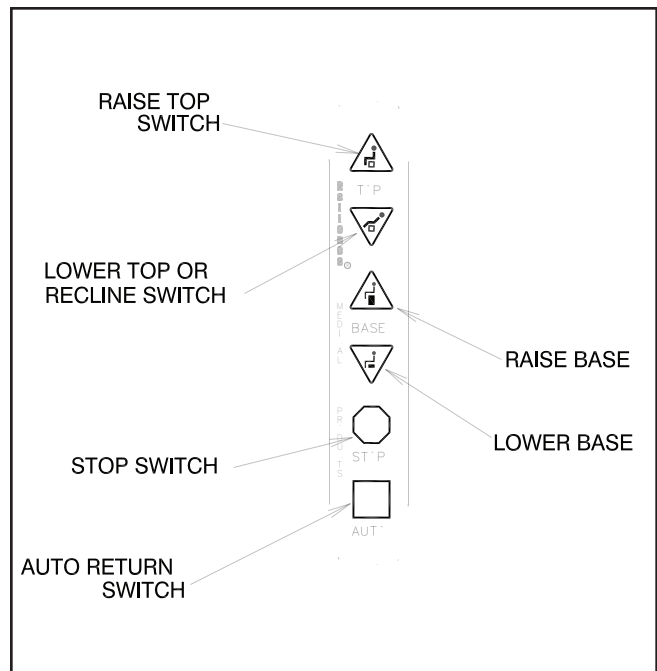

FIGURE 2
3.1.1. Depressing the STOP switch on either side of the chair back will STOP ALL movement of the chair. The STOP switch is shaped like a stop sign, and may be either RED or ORANGE in color. It is located above the text "STOP". (Refer to Figure 2). The STOP switch is also used to program the chair. See Section 4 (page 12) for programming instructions.
- The chair lift may be raised or lowered by Membrane Switches on either side of the chair back (Figure 2).
- The chair top may be raised or reclined by Membrane Switches on either side of the chair back (Figure 2).
The chair has a built-in Safety/Shutdown feature. This feature causes the chair to shutdown or become inoperable. This feature prevents unauthorized use of the chair. (See Figure 2).